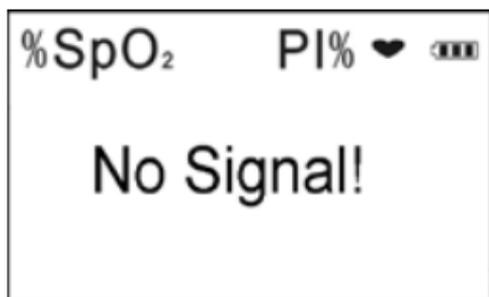

Figure 10 No Signal
- During monitoring, if the probe is not connected to the oximeter or the probe is off, "No Signal!" will be prompted on the screen, as shown in Figure 10.